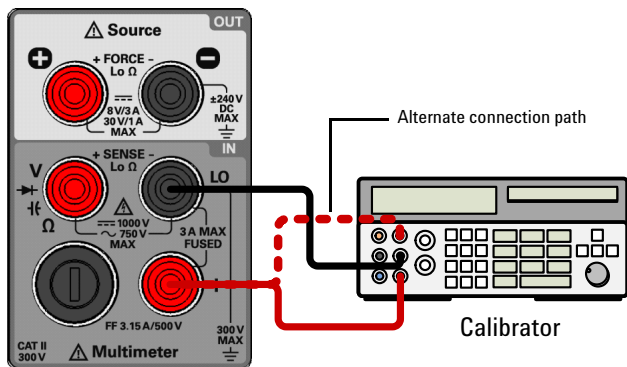

Figure 5-3 Test setup for DC current and AC current gain verification
- 1 Connect the calibrator to the front panel **I** (red) and **LO** (black) input terminals (see **Figure 5-3 on page 147**).